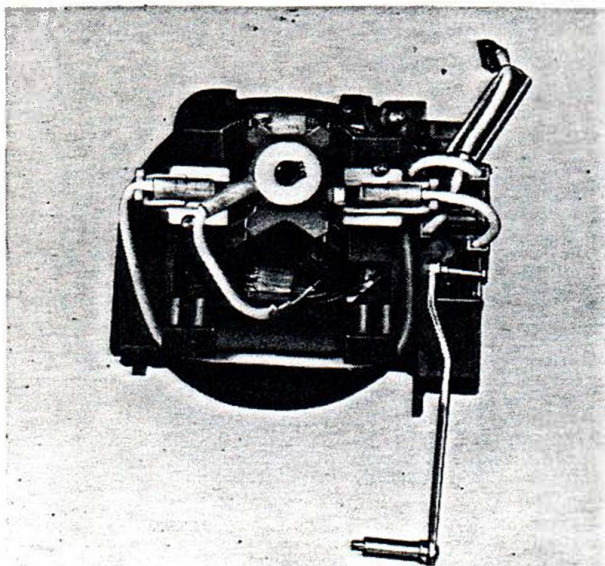

Figure 28. Carbon Brush Cartridge Replacement
- A. See Figure 28. If carbon brushes are to be reused, mark the brush holder assembly that is closest to the power switch with an "S". Reinstall brush holder assemblies in same positions from which they were removed.
Ensure that the wire routing for the brush holder assembly that is located opposite the power switch is positioned as shown in Figure 28.